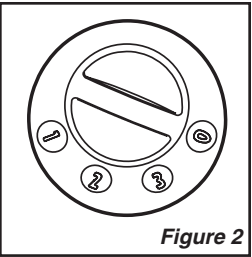

Figure 2
- 5. Turn the Fan ON by selecting the desired speed with the Power Knob on the top of the Fan. (Figure 2)